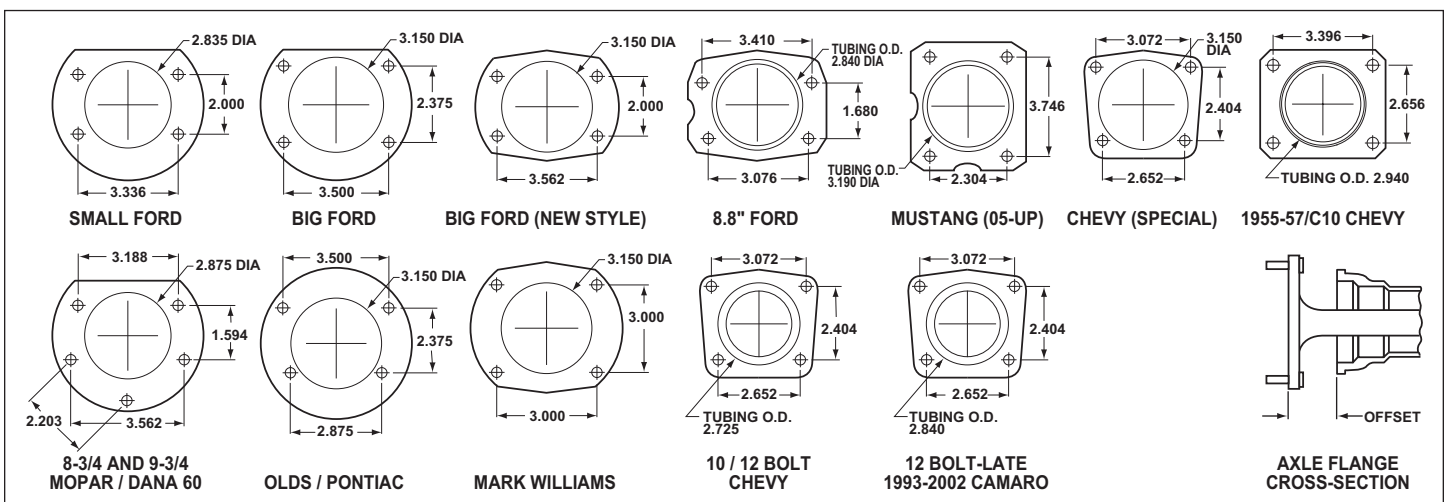

Figure 5. Rear Housing Flange Chart and Axle Flange / Offset Cross-Section
- Make sure this is the correct kit to fit the axle housing flange, not necessarily the rear end make. Many times after market manufacturers put a different make of axle housing flange on the stock rear end housing (see Figure 5). Example: Big Ford rear ends with Olds-Pontiac flanges, therefore, an Olds-Pontiac rear disc brake kit would be the correct kit to order. Also, shock clearance may be a problem. They may have to be modified and/or relocated to clear the Wilwood kit after final assembly.
- Dimension from wheel side of axle flange to wheel side of axle housing flange (see Figure 5, lower right hand corner). This dimension is critical to ensure proper alignment of the rotor to the caliper, and should match offset given in the kit description.